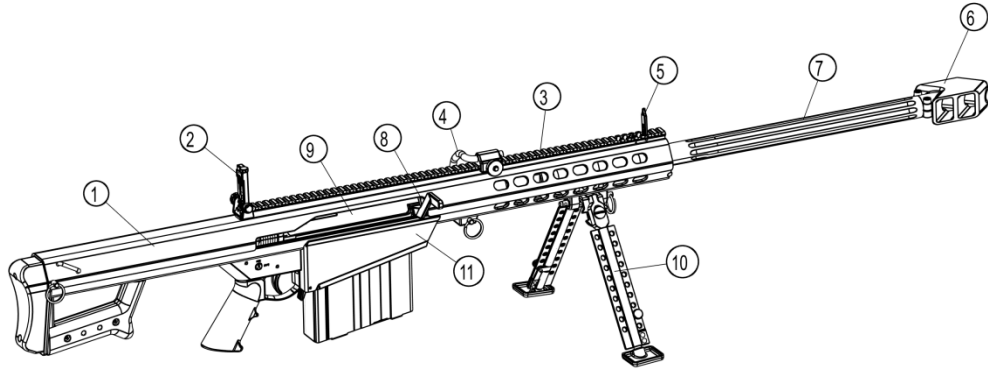

Figure 1-1. Rifle, M82A1
**EQUIPMENT SPECIFICATIONS AND CAPABILITIES.** The technical specifications and capabilities of the M82A1 (Figure 1-1).